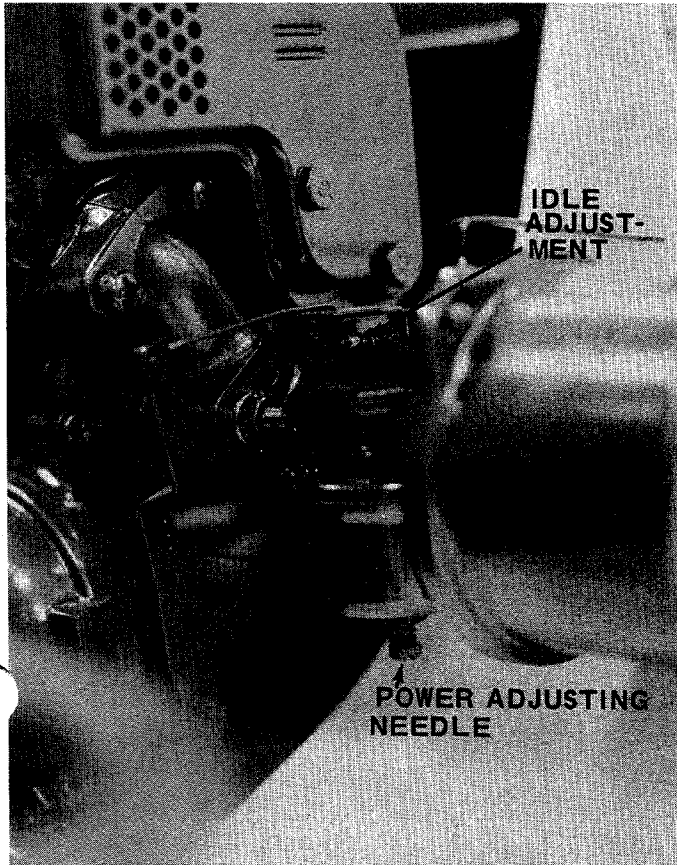

FIGURE 20
### CARBURETOR ADJUSTMENTS (See figure 20)
1. Close power adjusting needle (figure 20) by turning to right (clockwise). Close finger tight only. Forcing will cause damage.
3. Close idle adjusting needle (figure 20) by turning to right (clockwise). Close finger tight only. Forcing will cause damage.
7. Hold throttle lever closed or move carburetor control to IDLE or SLOW position and adjust idle adjusting needle until engine runs smoothly proceeding in step six (6) above.